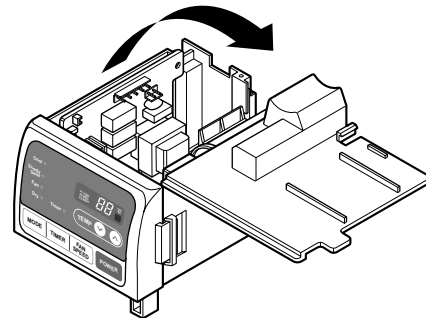

Figure 24
2. Open the top cover from the control box. (See Figure 24)